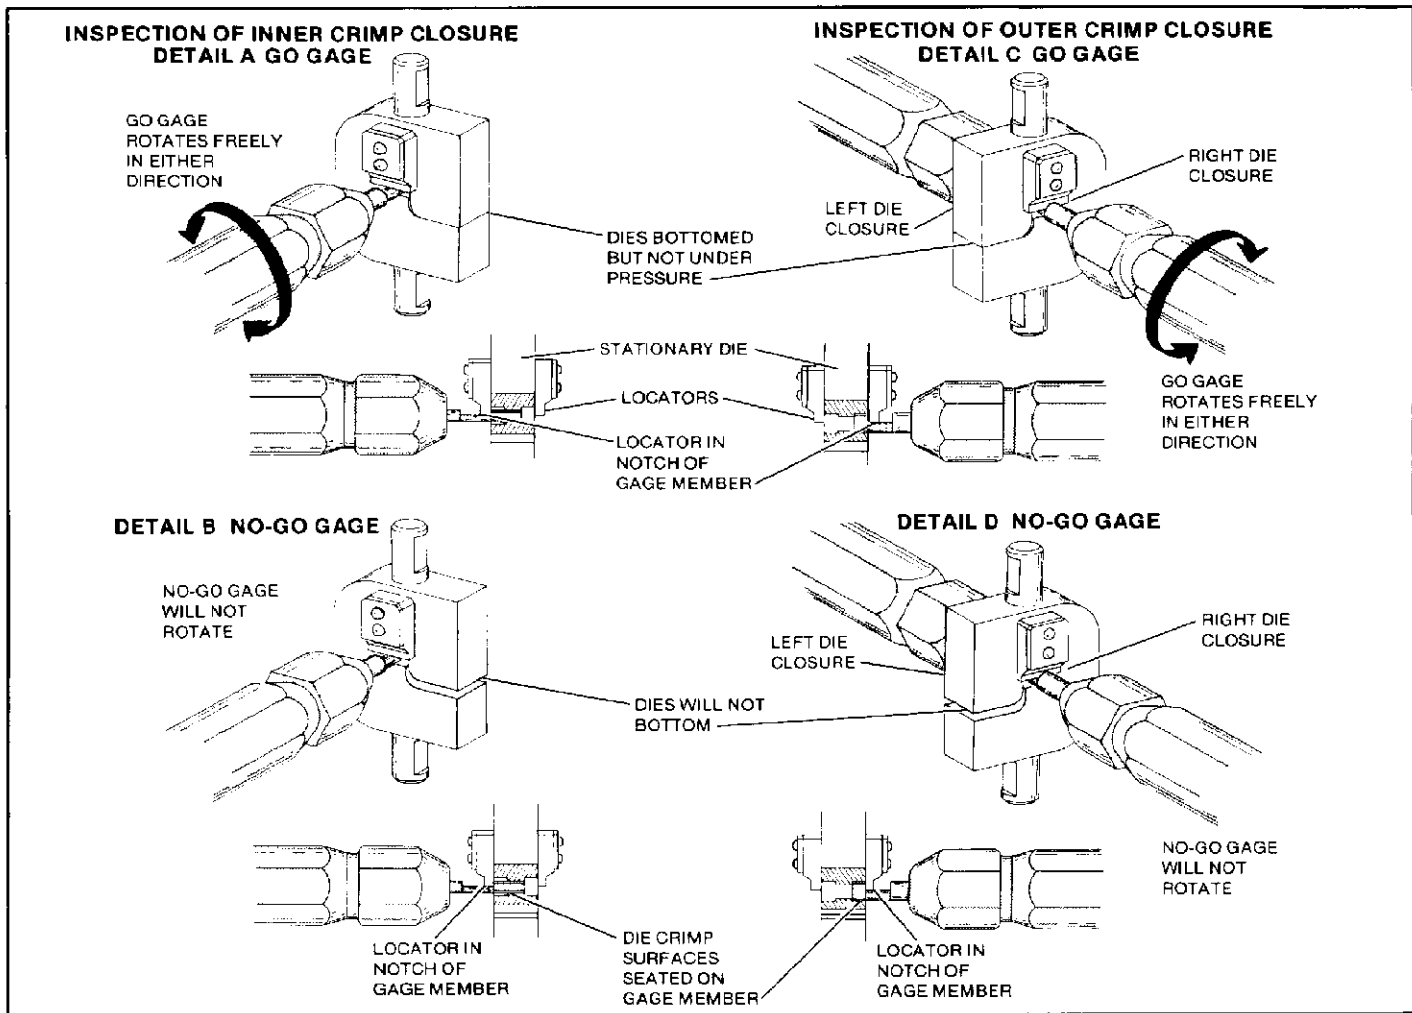

Figure 9
- Select the proper GO gage. Position gage member in inner crimp closure of stationary die so that locator is in notch of gage member. See Figure 9, Detail A.
- To meet the GO gage conditions, the plug gage must be able to be rotated freely in either direction as shown in Figure 9, Detail A.
- Select the proper NO-GO gage. Position gage member in inner crimp closure of stationary die so that locator is in notch of gage member. See Figure 9, Detail B.
- To meet the NO-GO gage conditions, die bottoming surfaces will NOT bottom, and NO-GO gage member will be held stationary (will not rotate) by the dies. See Figure 9, Detail B.
- Inspect the right and left outer crimp closures in the same manner as steps (b) thru (g). See Figure 9, Details C and D.